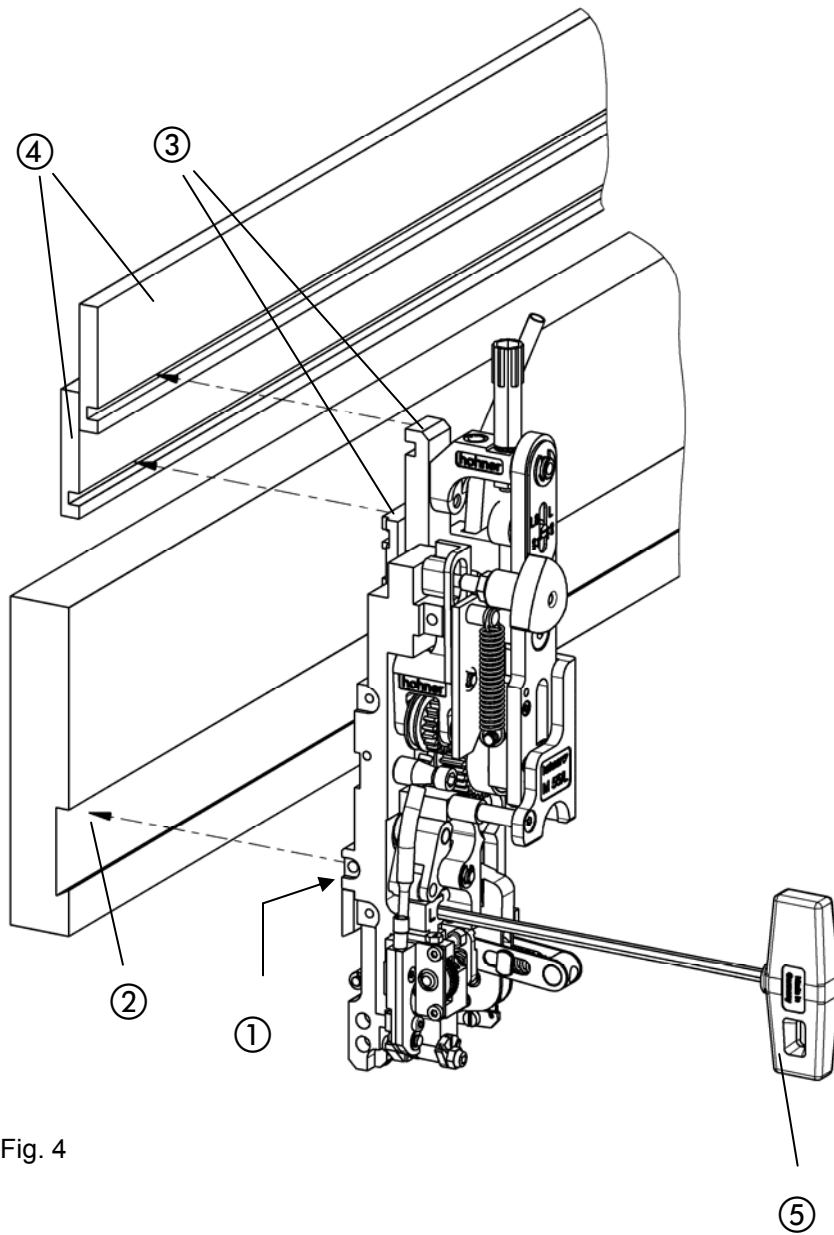

Fig. 4
- Fig. 4 -
- Loosen tenon block ① with Allen key SW4 ⑤.
- Fit the stitching head by inserting the tenon block in the stitching head holder ②. The two driver lugs ③ on the stitching head must be located in the guides of the lifting bar.
- Fix stitching head in stitching head mounting by tightening the tenon block ① with the Allen key.